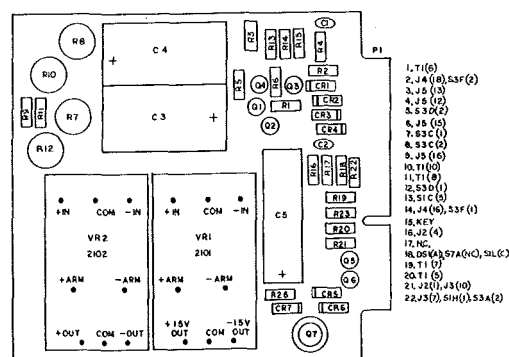

Figure 5-1. Power Supply Assembly (A1) Adjustments
- d. Adjust potentiometer R8 for a voltmeter indication of +6V  $\pm 100$ mV. See Figure 5-1. for the location of this adjustment.
- h. Adjust potentiometer R10 for a voltmeter indication of +15V  $\pm 100$ mV. See Figure 5-1. for the location of this adjustment.
- d. Adjust potentiometer R7 for a voltmeter indication of  $-6V \pm 100mV$ . See Figure 5-1. for the location of this adjustment.
- h. Adjust potentiometer R12 for a voltmeter indication of  $-15V \pm 100mV$ . See Figure 5-1. for the location of this adjustment.